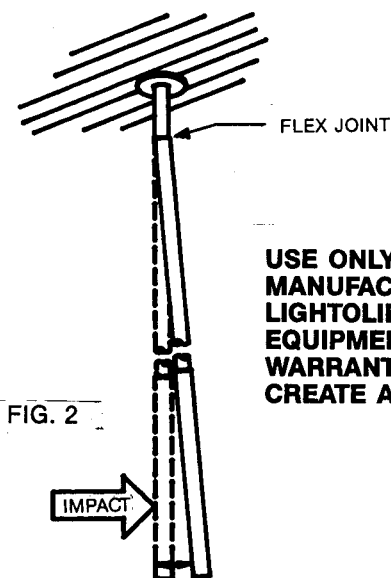

FIG. 2
**NOTE:** The 30" and 42" STEMS have a "CONCEALED FLEX" TO ABSORB IMPACT AND SHOULD BE INSERTED AND REMOVED WITH CARE (Fig. 2).